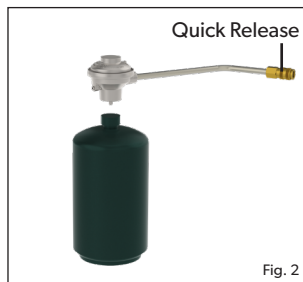

Fig. 2
- Gas is supplied to the unit via a hose and a regulator supplied with the unit. The hose and regulator is connected to a CGA No. 600 type thread propane cylinder not exceeding 1 lb (See Fig.2). This appliance can also use a 20 lb propane cylinder with an alternate hose and regulator assembly (not included). Please also refer to Section 2 for use of a 20 lb propane cylinder.